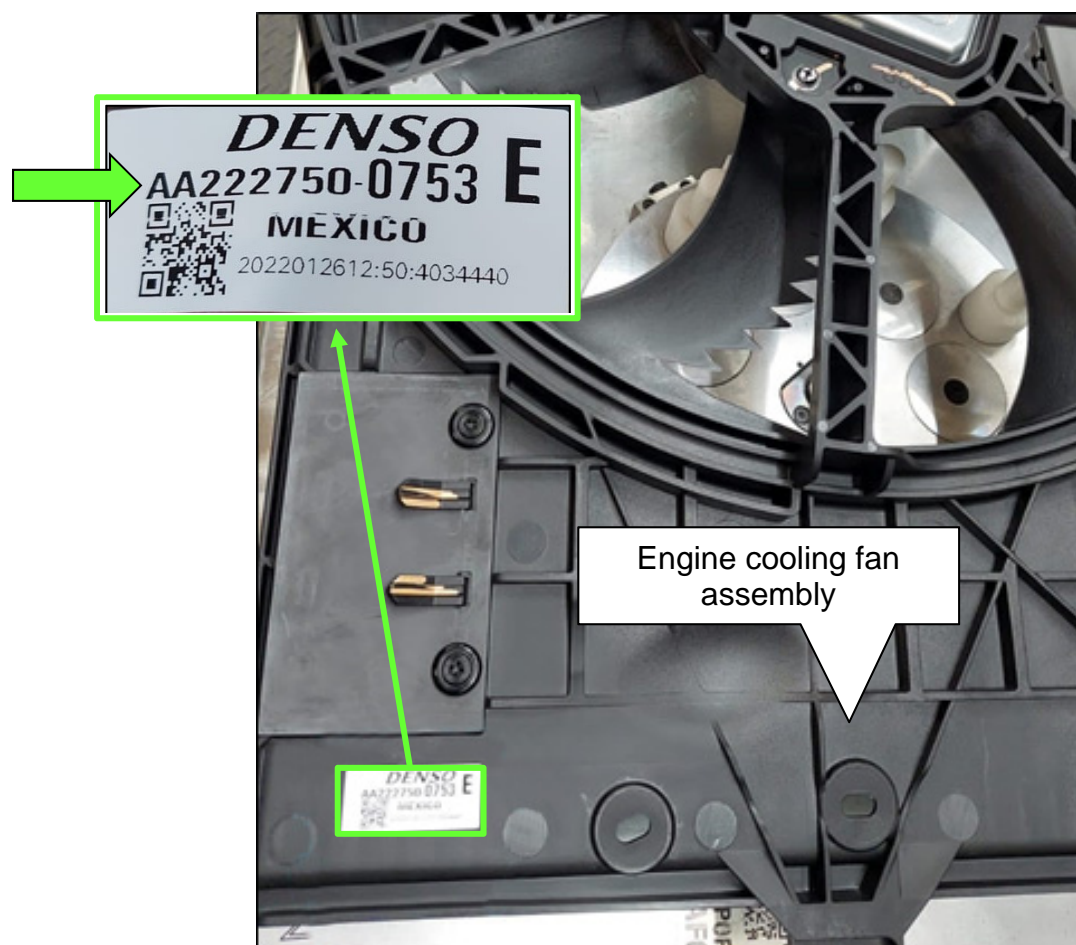

Figure 1
1. Inspect the Denso part number on the label of the engine cooling fan assembly that is currently in the vehicle (Figure 1).
2. After ordering the new engine cooling fan assembly, confirm that the Denso part number on the new part is in **Table A** before installing (Figure 1).